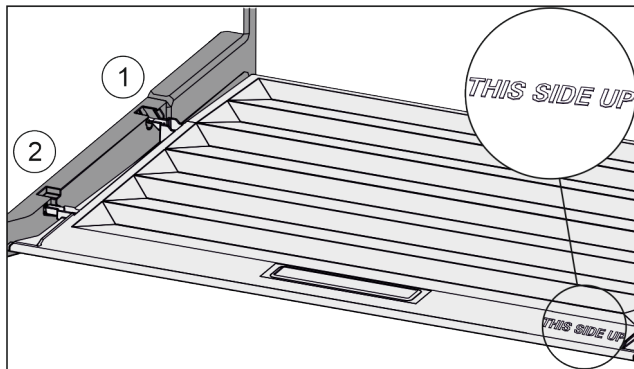

Fig. 25
- ▶ Insert the lip of the cover over the opening of the rear bracket Fig. 25 (1) and click into place Fig. 25 (2).